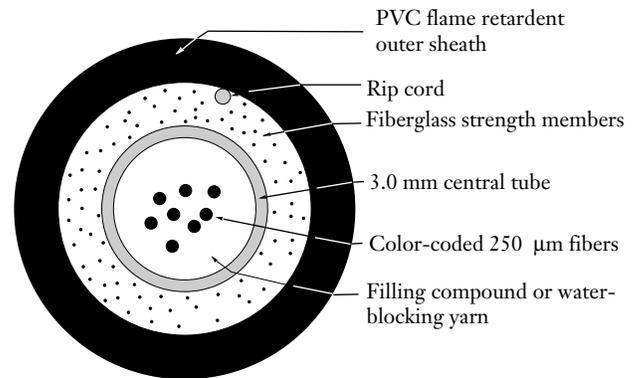

Figure 1
**1.2** Corning Cable Systems FREEDM/LST cable is a rugged, craft friendly cable designed for use in indoor and outdoor environments. The cable contains between one and twelve fibers. The fibers are color coded and contained in a filled tube to ensure longitudinal water-blocking protection. Dielectric strength members around the central tube provide strength. The polyvinyl chloride (PVC) sheath provides for a lightweight and easily installable cable (Figure 1).